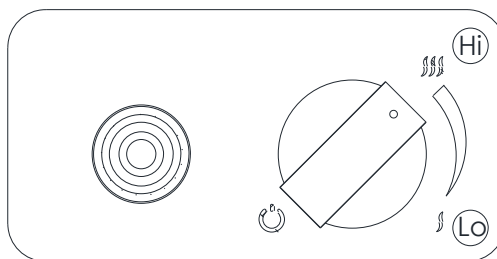

Fig. 11– Flame regulation
- To achieve a higher flame turn the knob clockwise to “Hi” position. To achieve a lower flame turn the knob counter-clockwise to “Lo” position (*Fig. 11*).